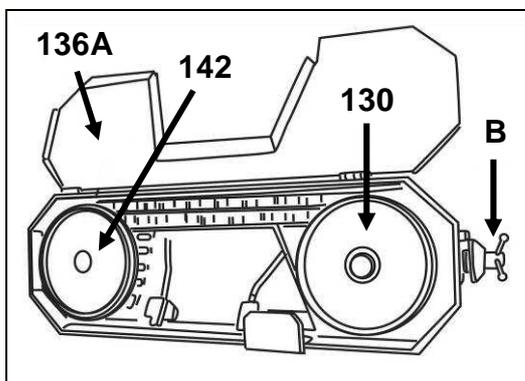

Fig 28
- Tighten the band by means of the special handwheel (B Fig 28);